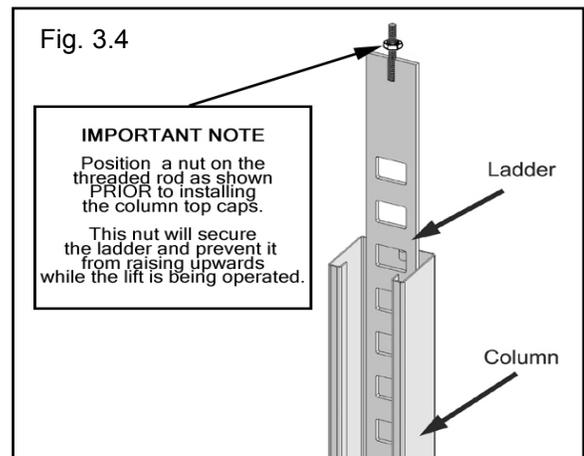

Fig. 3.4
4. With the Columns standing and the Cross Tubes in position, install the SAFETY LADDERS. Pass the Ladders through the Column openings and drop down through the Slide Block guide slots on the Cross Tube until the Ladders come to rest on the base plates. **DO NOT BOLT** Columns down at this time. (See Fig. 3.4 & 3.5.)